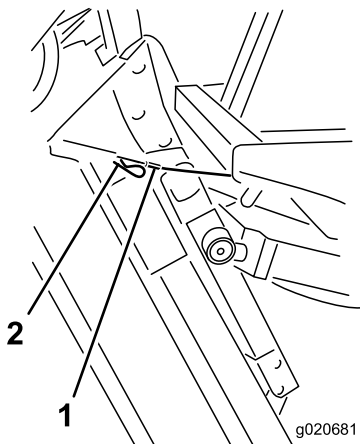

Figure 119
6. Hold the mower deck upright, fit the cable end over the pin on the mower deck lift arm, and secure it with the hairpin cotter (Figure 119).